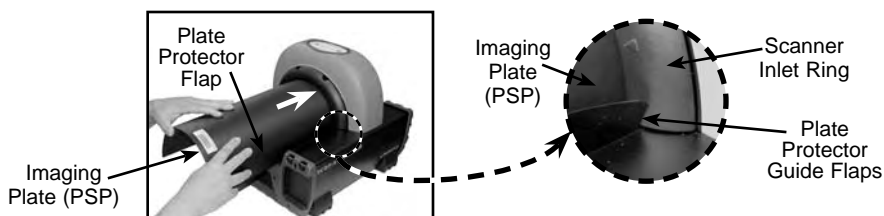

Figure 9. Feeding an Imaging Plate
3. As shown by Figure 9, position the Plate Protector containing the PSP against the curved inlet, surface and hold it flush against the scanner inlet. A Plate Protector containing an exposed PSP narrower than 14 inches may be centered on the scanner inlet, making sure that it is aligned.